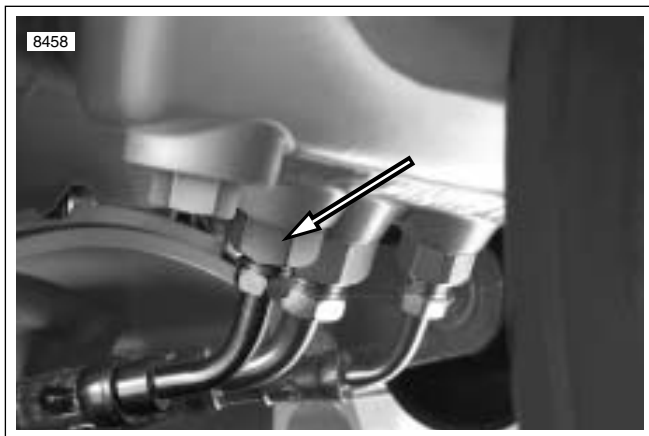

Figure 2-84. Oil Line Fittings
1. See Figure 2-84. Remove oil line fittings from swingarm. See Table 2-14.
3. See Figure 2-84. Install oil line fittings on swingarm. Tighten to 29-31 ft-lbs (39-42 Nm). See 3.9 OIL HOSE ROUTING AND OIL RESERVOIR.